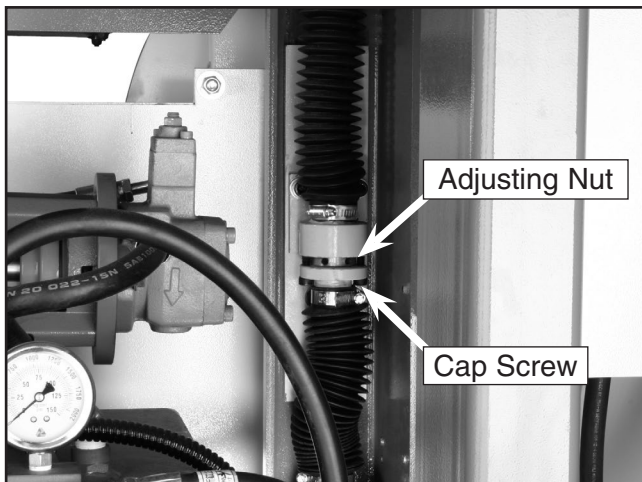

Figure 61. Conveyor fine adjustment.
7. Loosen the cap screw shown in **Figure 61**.
8. The adjusting nut shown in **Figure 61** raises, or lowers, the non-drive side of the bandsaw blade (the side opposite the motor). Insert the pry tool into the adjusting nut.